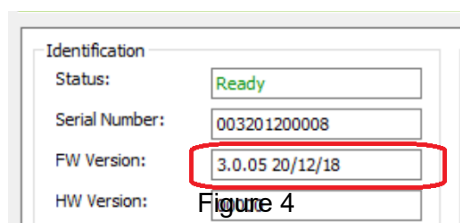

Figure 4
11. Click Program (figure 4 below) to start FW update.